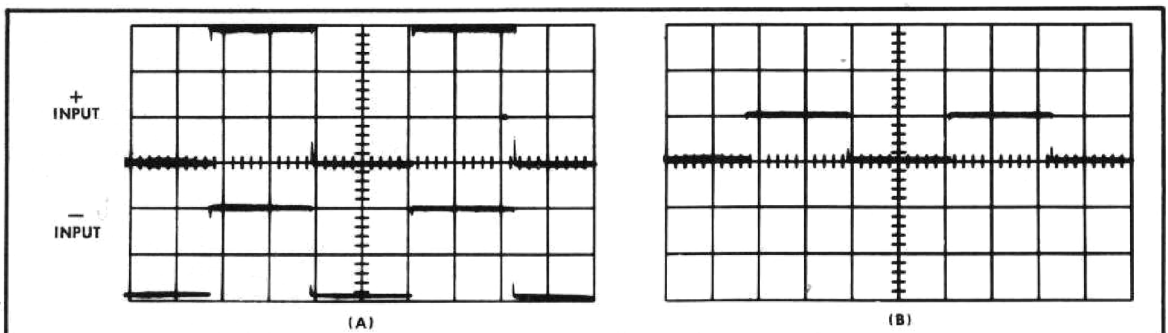

Fig. 2-1. (A) Upper signal applied to + Input and lower signal applied to - Input. (B) The resultant output signal.
2. If the two signals are in phase but of different amplitude the output will equal the amplitude difference. See Fig. 2-1.